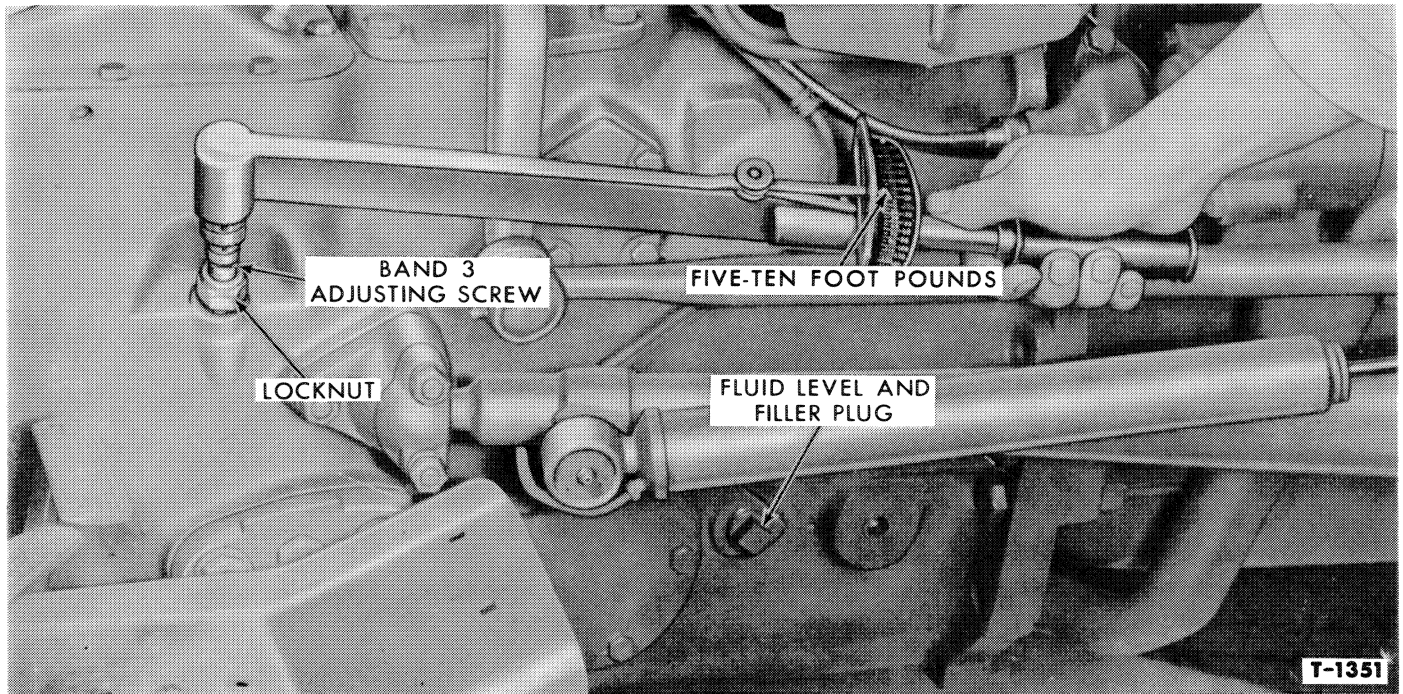

Figure 72—Adjusting the Bands
3. Clean the area surrounding the fluid level and filler plug, shown in Figure 72, and remove the plug.
4. Referring to the chart, select the correct released gear ratio for the band involved. Tighten the adjusting screw to 5-10 ft. lbs. and back the screw off the proper number of turns. Refer to Figure 72.